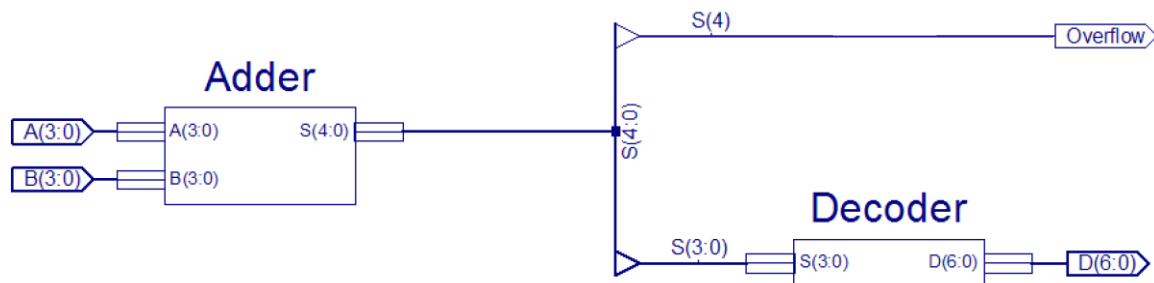

Figure 3. A possible top-level schematic
Now we need to create a new source file where we instantiate the adder and the decoder that we have just designed. In this module we will still have the two inputs A(3:0) and B(3:0) that go directly to the adder. The output of the adder is a bus that is 5 bits wide. 4 of these S(3:0) will go to the decoder, and the most significant bit S(4) should connect to a separate LED. An example schematic is given in figure 3.